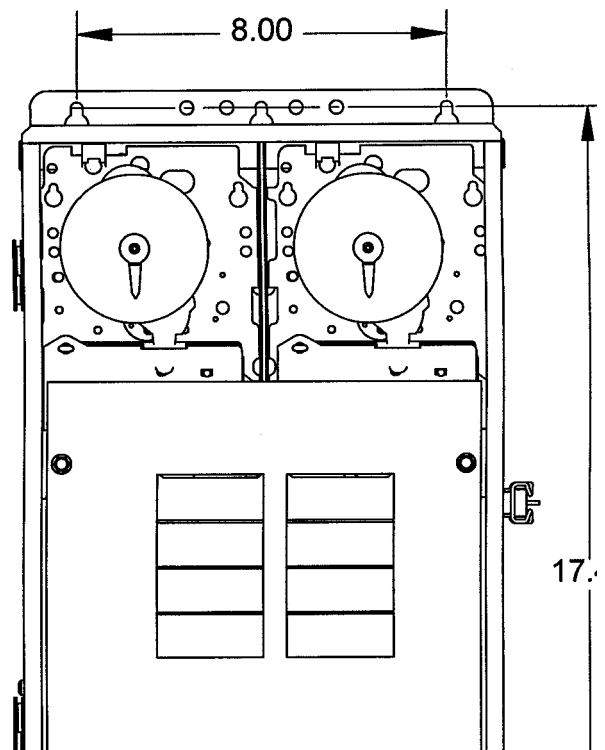

Figure 1
4. Refer to Figure 1 below; note that this enclosure contains one or two Time Switch(es). To wire the panel, follow the wiring diagram located inside the enclosure door. Make sure that connections to time switch terminals are tight (25 lb.-in. minimum) and insulation clears the pressure plate - see illustration.